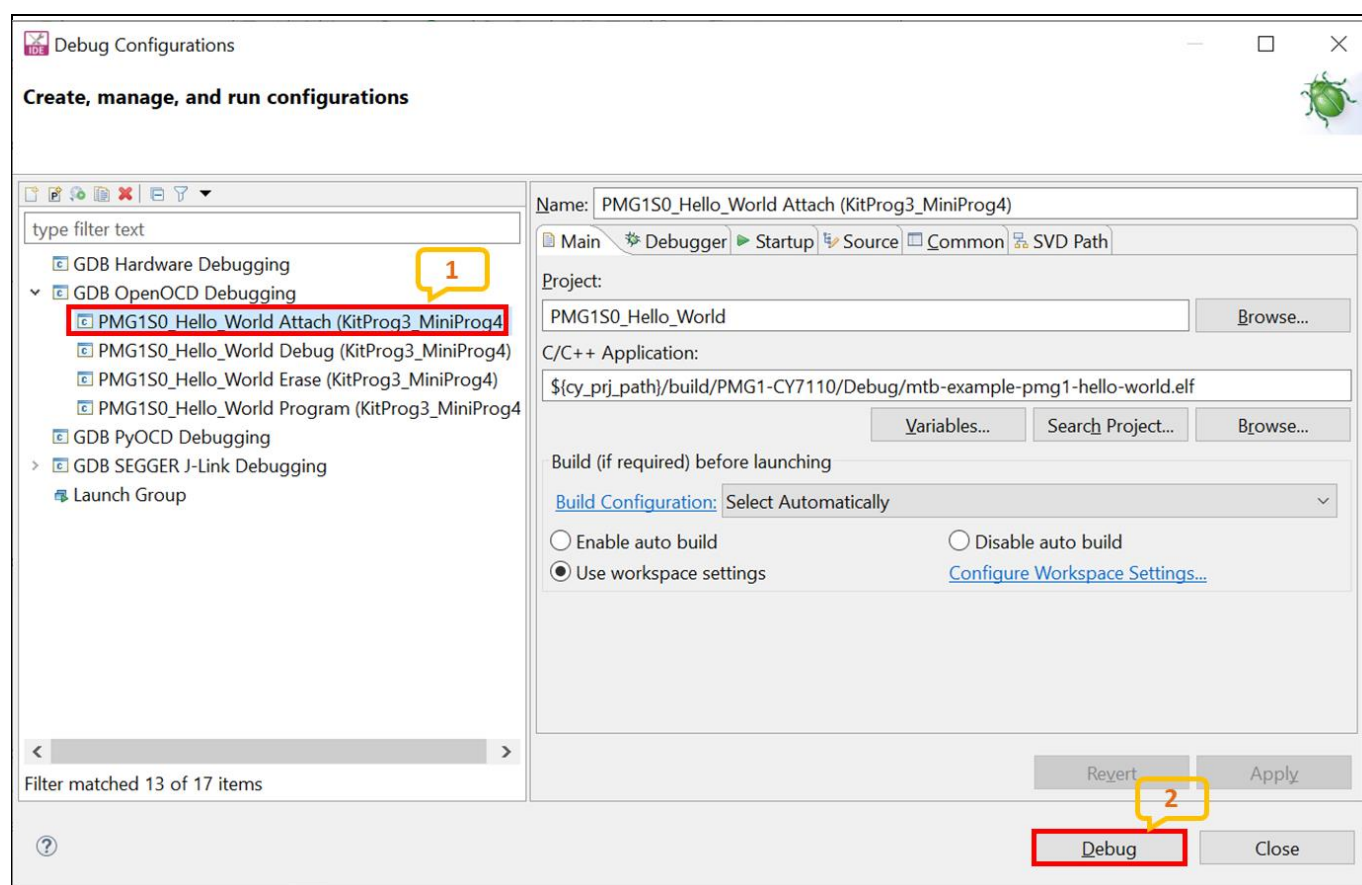

Figure 44 Selecting Debug Attach and starting a Debug session
8. Under GDB OpenOCD Debugging, select **<Application name> Attach (KitProg3_MiniProg4)** and click on **Debug** as shown in **Figure 44**. This will start a debugging session attaching to a running target without programming or reset. For more information on debug configurations refer MTB user guide [\[7\]](#).